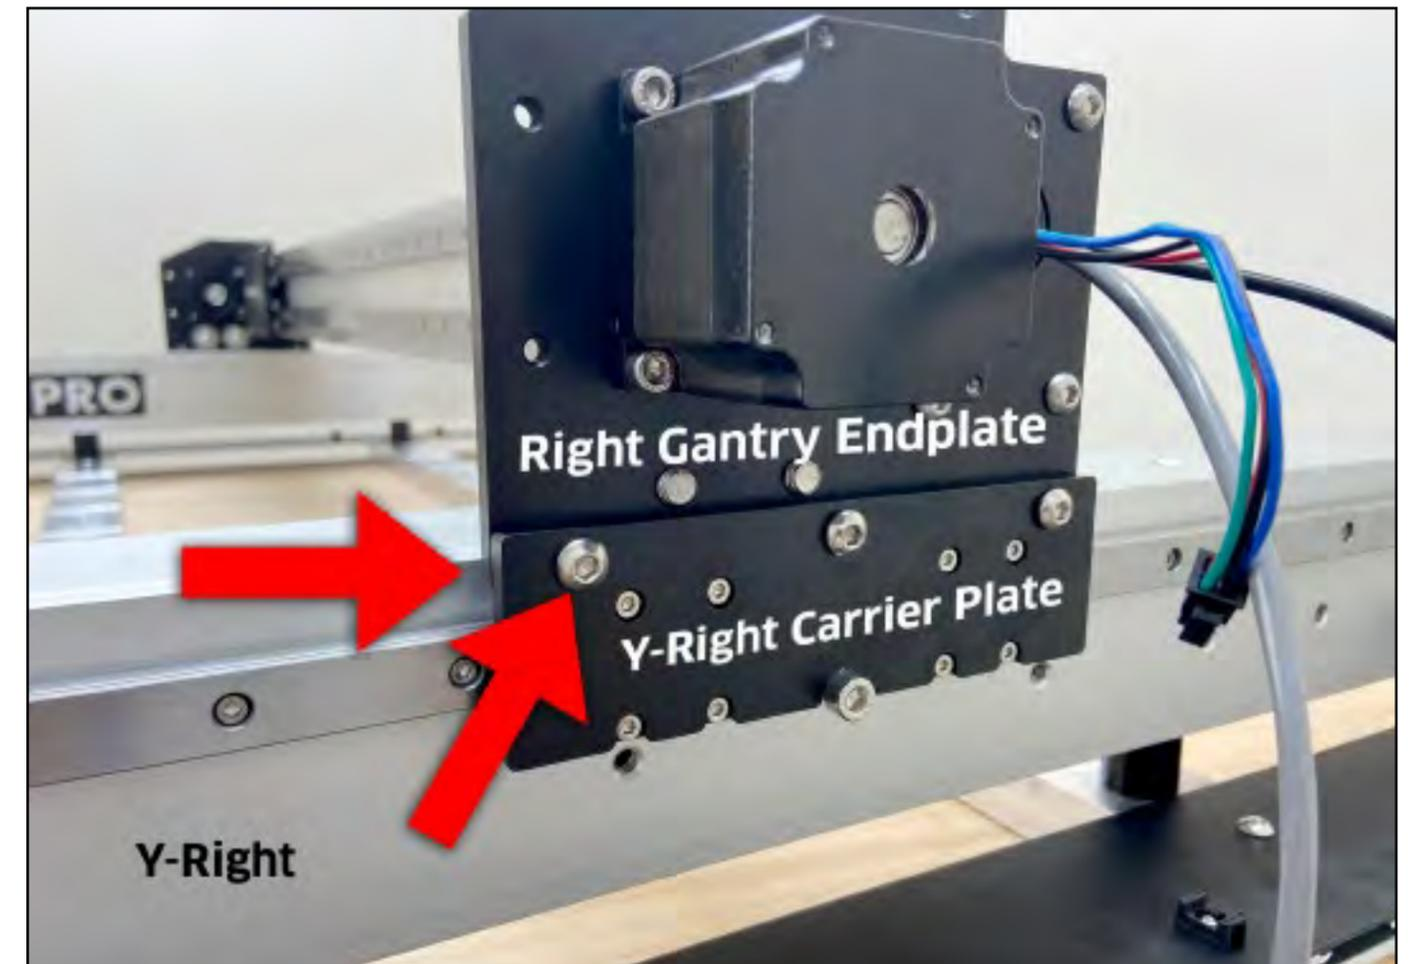

Figure 4-4
3. Use a 4mm hex key and six (6) M6×12mm BHCS to loosely attach the gantry to the carrier plates. See **Fig. 4-4.**